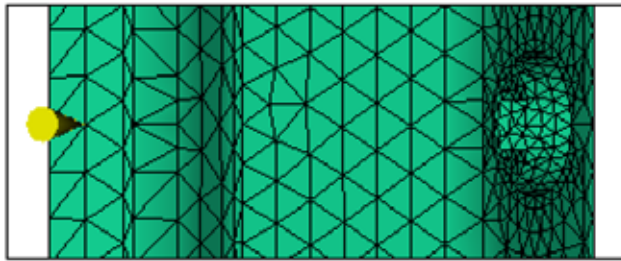

Figure 95: Cover injection location
- 3.1. Set the injection location in the center of the long side, half way up the wall, as indicated in Figure 95.